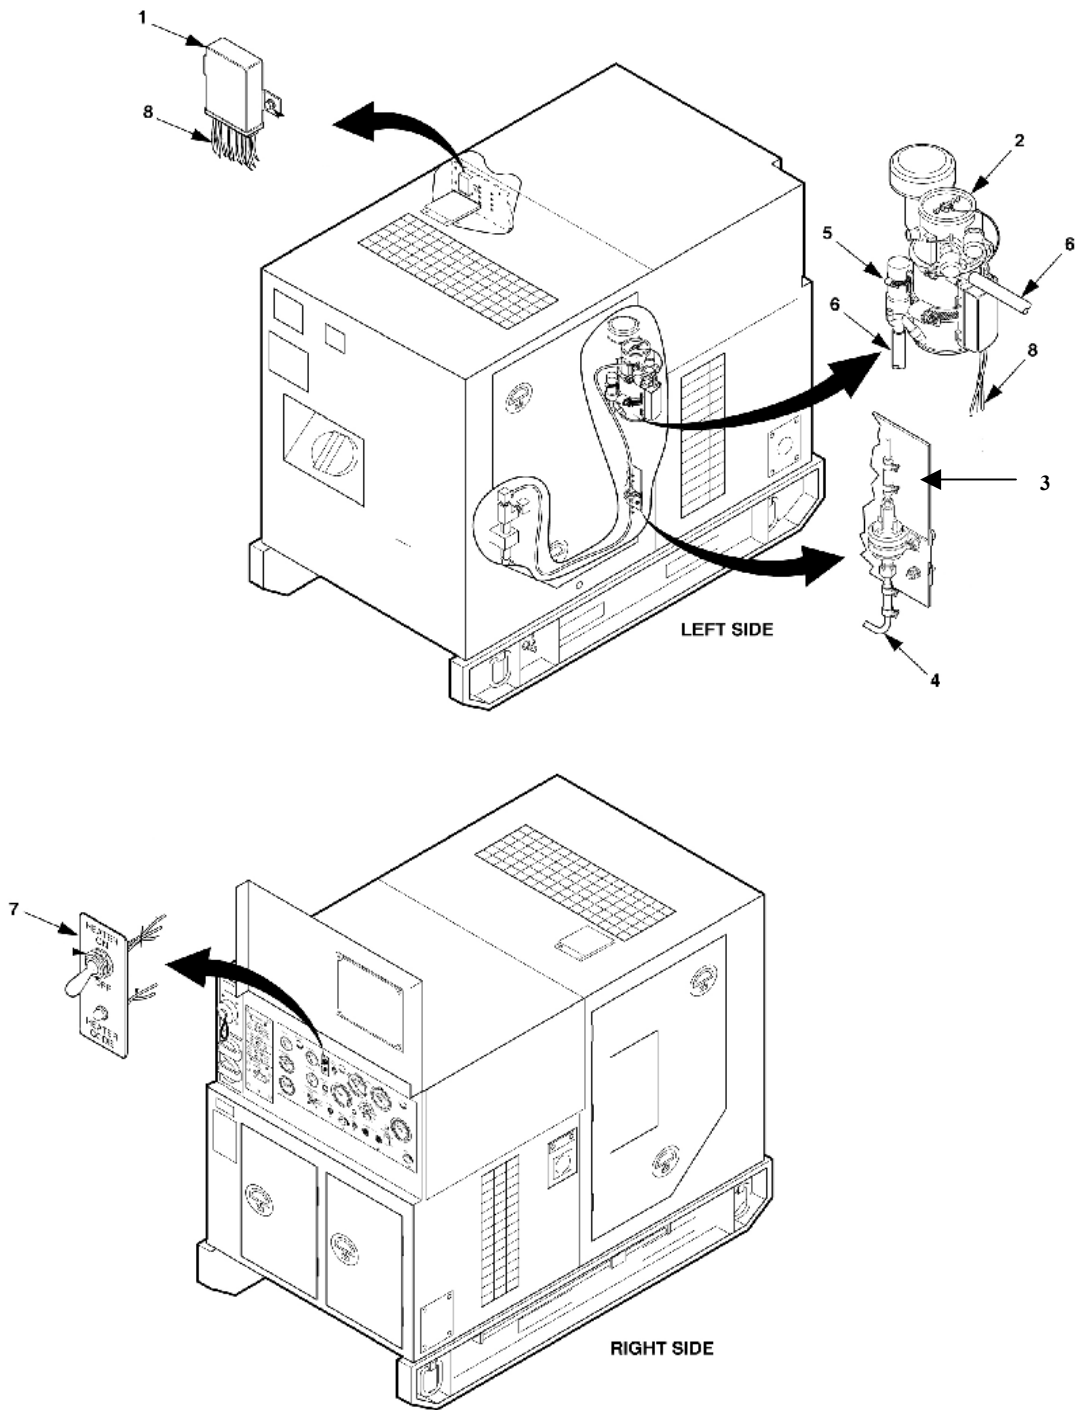

Figure 1-1. Location of Major Components for 10kW (MEP-803A, MEP-813A).
Figure 1-1 illustrates the major components of the kit and shows their locations on the 10kW Tactical Quiet Generator Set. (Refer to table 1-1 for item names).
**2-1.1.1 Heater Indicator Light.** A light at the heater ON-OFF switch (item 7, figure 1-1) lights when the heater is in operation. The light also serves as a troubleshooting code light (See paragraph 3-1.1).